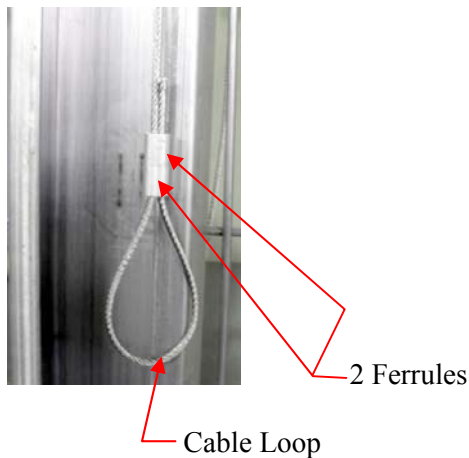

Figure 57
With the cable properly routed into the counterweight guide channel, have person #1 slide two (2) ferrules onto the cable then make a loop with the cable, and route the cable back through the two (2) ferrules (**Figure 57**).